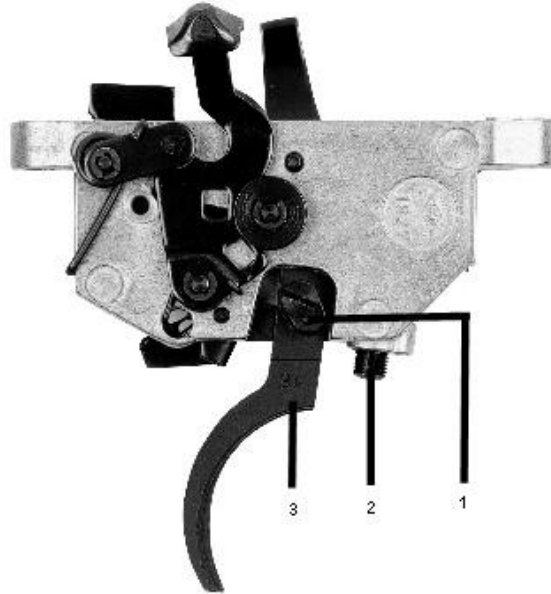

Fig. 3
3. Adjust the trigger pull weight with screw #2 (see Fig. 3)